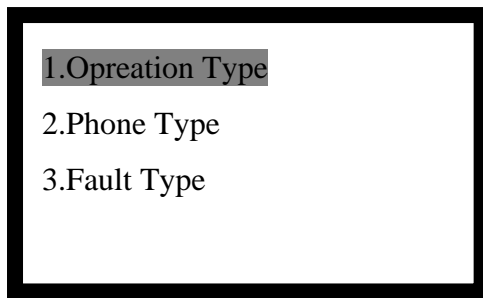

Fig. 4-5
- Select "2. By Type" to enter the screen of Fig.4-5 showing three sub-menus. The user can browse messages quickly according to the message type. Operation type includes start-up, self-test, reset and registration. Telephone type includes call in, call out, lifting and hanging up a call. Telephone type also contains refusing a call, cancelling call in or call out. Both overall hang up and no answering belong to this type. Fault type consists of short circuit, off line fault, socket short or open, and fault recovery.